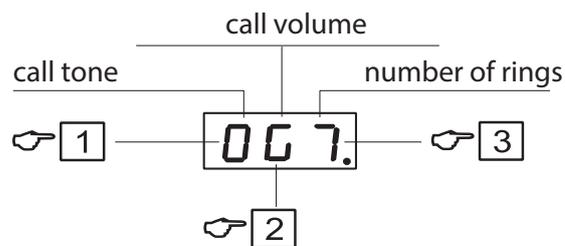

Figure 3. User menu
- using the User menu (adjustment in the door entry system – Figure 3).
- Enter the apartment number, then press the KEY button and enter the code of the code lock. The display will show the symbols defining the current status of individual settings. In Figure 3 is shown the view of the display after switching on the User menu (view for the default parameter values).